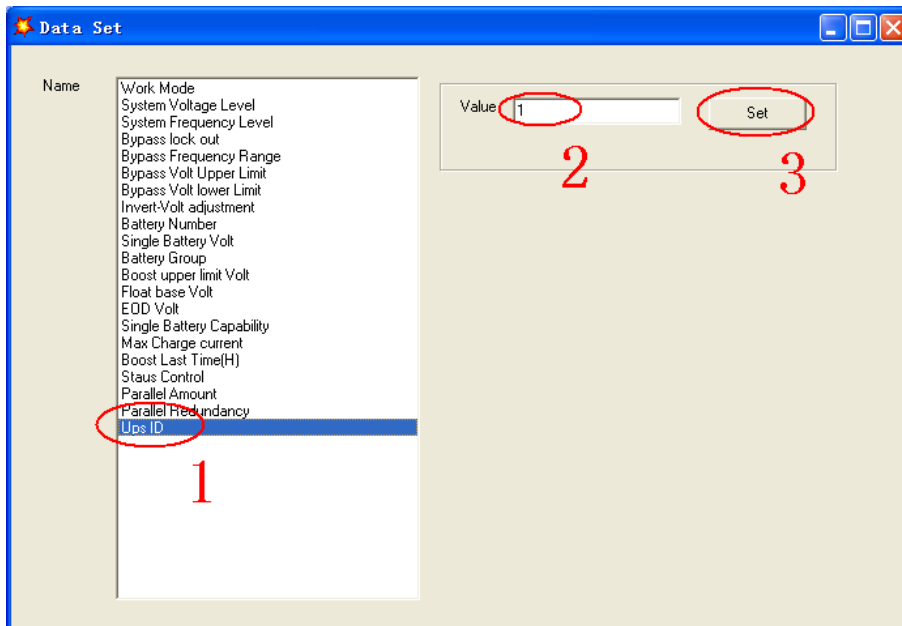

Fig. 5-14 Parallel mode value configuration
- At the window of “Data Set”, click “Ups ID”, write a value for the parallel UPS ID at the right side, such as “1”, then click “Set” as shown in below picture (Fig. 5-14). If the UPS sounds a “beep”, that means the setting is correct.